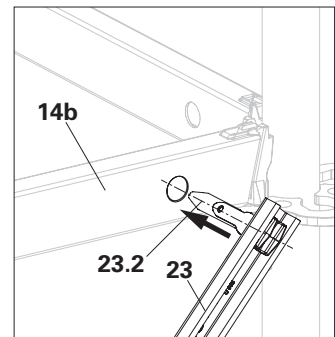

Fig. A4.08d
4. Insert the tilt finger into the hole of the upper horizontal ledger (**14b**). (Fig. A4.08d)